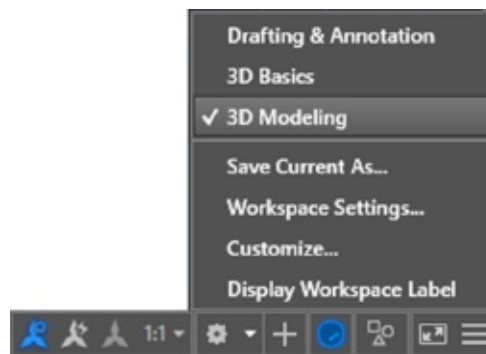

FIGURE 23.1 Selecting the 3D Modeling workspace
3. Click the Workspace pop-up list in the status bar and select 3D Modeling, as shown in Figure 23.1.